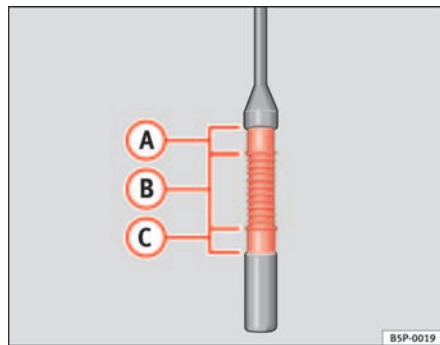

Fig. 122 Engine oil dipstick.
- Pull the dipstick out again and check the oil level ⇒ fig. 122.
If the oil level is in area ⇒ fig. 122 , do not top up with oil.